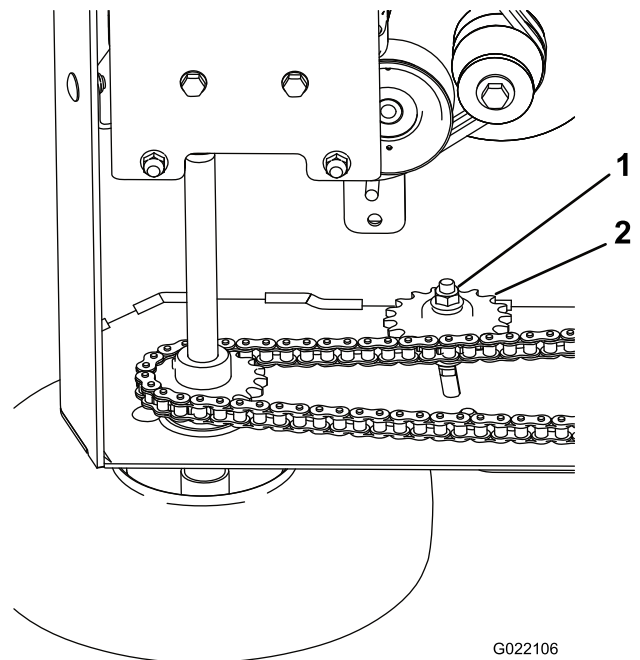

Figure 33
- A. Loosen the nut securing the idler sprocket of the chain (Figure 33).